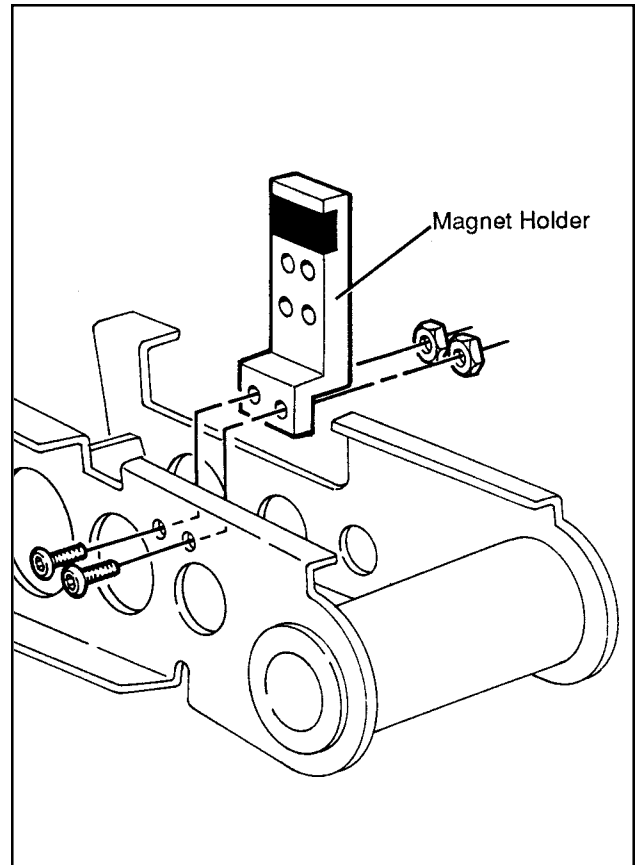

Figure 2-15
- Attach the magnet holder to the cut-off frame with two M3 x 12 phillips drive capscrews and nuts as shown in Figure 2-15.